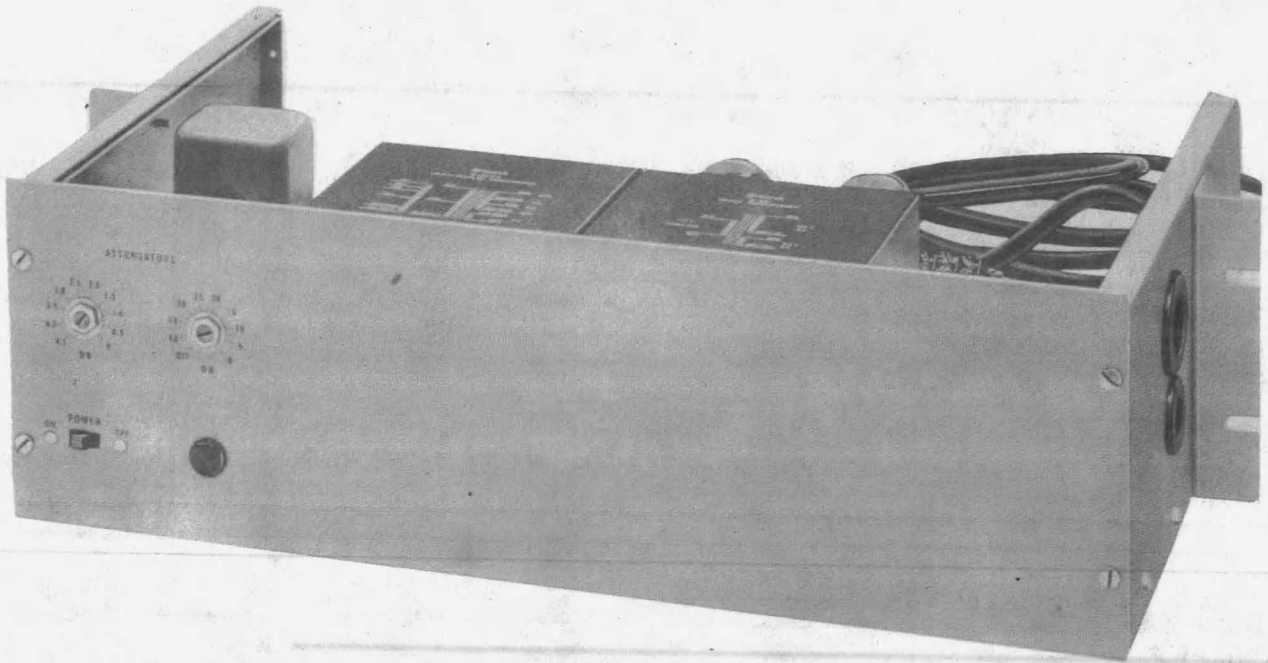

Fig. 1 — KS-19602 L1 Amplifier, Front View
1.02 This section is reissued to delete C2, C17 and C18, to add C19, C20, and R26, and to make other changes to the schematic diagram. Also, the ON-OFF marking on the panel illustrated in Fig. 1 has been corrected to agree with actual panel stamping.
1.03 The KS-19602 L1 amplifier is ac operated and is capable of low distortion amplification of signals which contain frequencies from 20 to 20,000 hertz. It is designed for mounting on standard 19-inch relay racks. Fig. 1 and 2 show the front and rear views of the amplifier; Fig. 3 shows a schematic diagram of the amplifier.